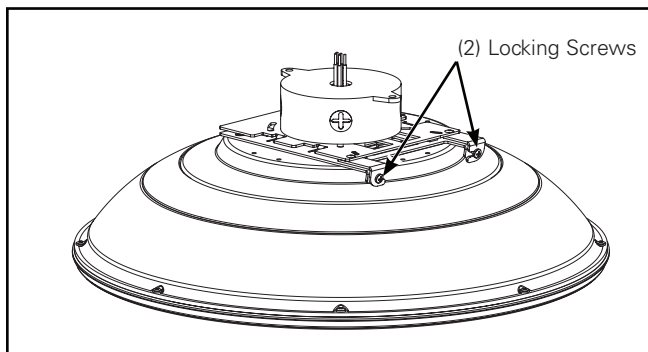

Figure 6.
- 7. Pivot both locking hinges back into place and tighten locking screws to 10 inch-pounds (Figure 6).